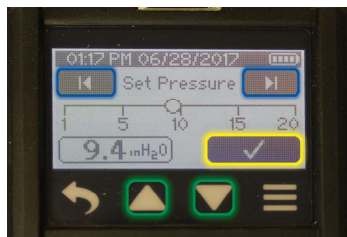

Figure 5. Multiple-tube Calibration - Constant Pressure - Train Overview
- a. Connect tubing from holder outlet to pump inlet. (*Figure 5*).
3. Use a length of flexible tubing to connect the exposed open end of the first port sorbent tube to a calibrator outlet (Figure 5).